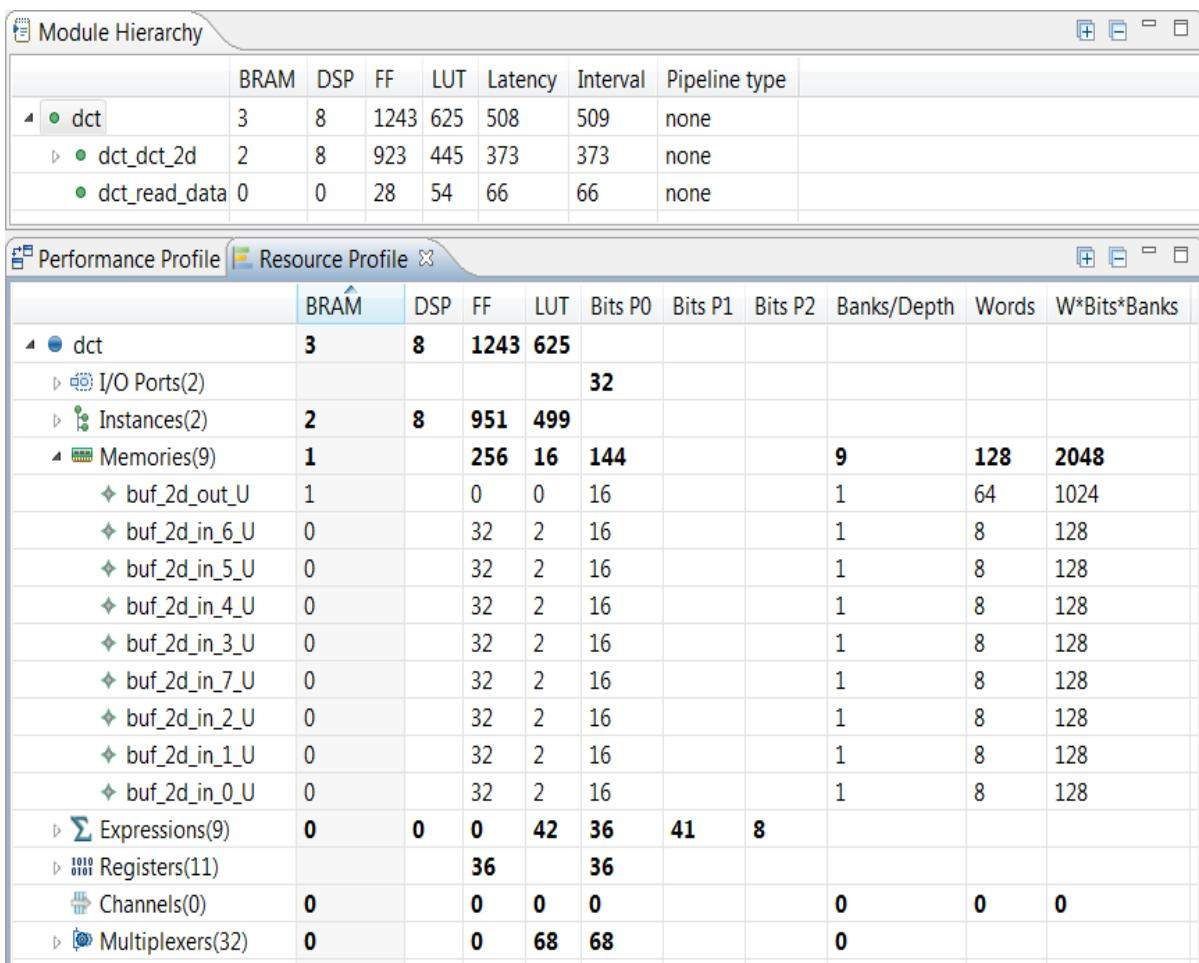

Figure 6-28: DCT Resource Profile
11. Expand the **Memories** and **Expressions** see the view in Figure 6-28.
The Resource Profile shows the resources being used at the current level of hierarchy (the block selected in the Module Hierarchy pane). Figure 6-28 shows:
You still have a goal to ensure that the design can accept a new set of samples every 125 clock cycles. Figure 6-28, however, shows that you can only accept new data every 525